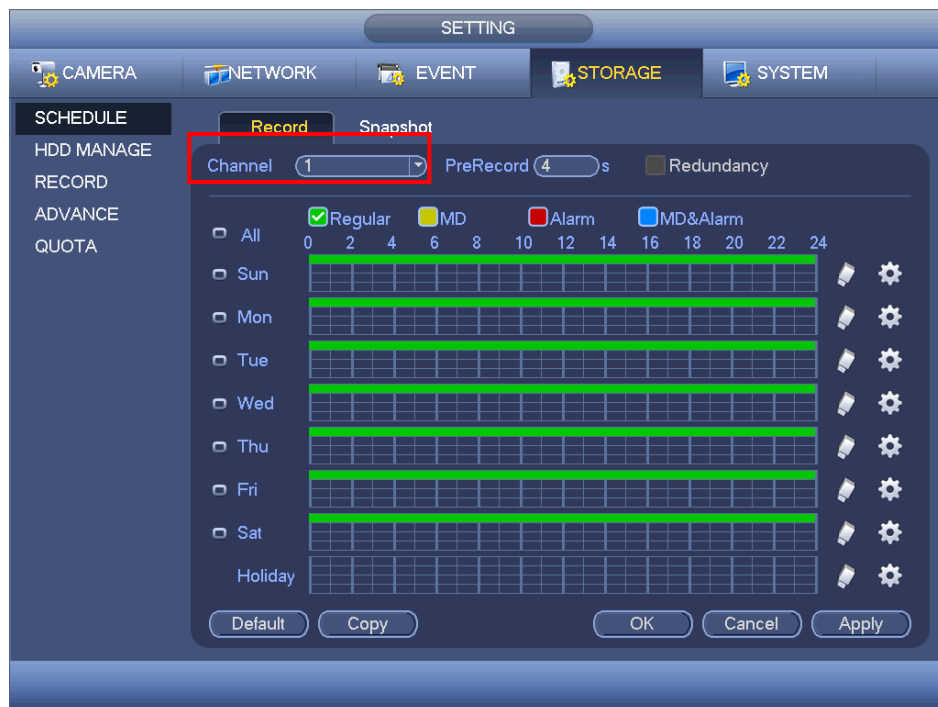

Figure 4-133
- In main menu, from Setting->Camera->Encode->Schedule interface, please enable snapshot function. See interface on the right of Figure 4-133.